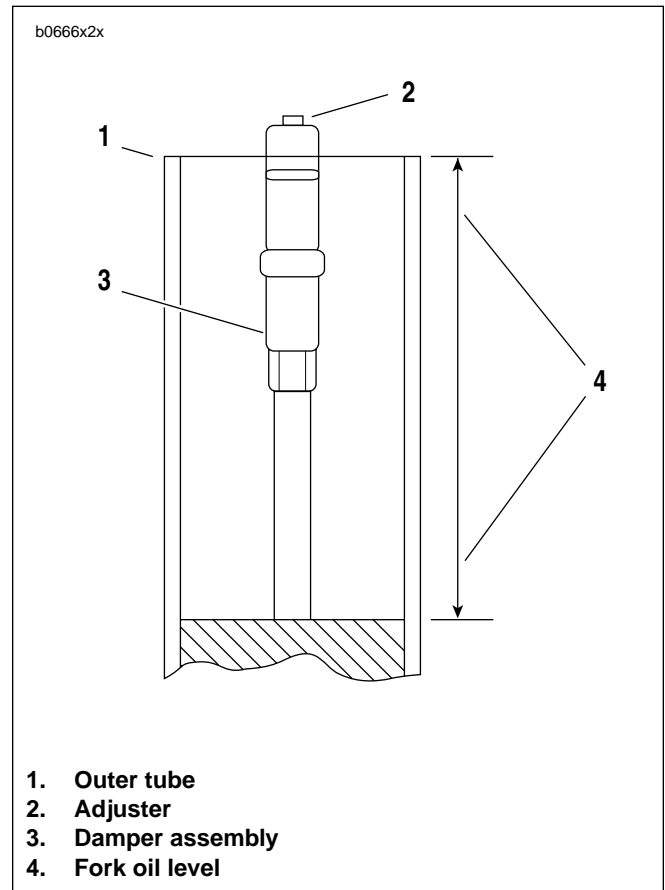

Figure 2-74. Measuring Fork Oil Level
17. See Figure 2-74. Adjust fork oil level with FRONT FORK OIL LEVEL GAUGE (Part No. B-59000A) so that it is 4.21 in. (107 mm) from the top of the fork tube.